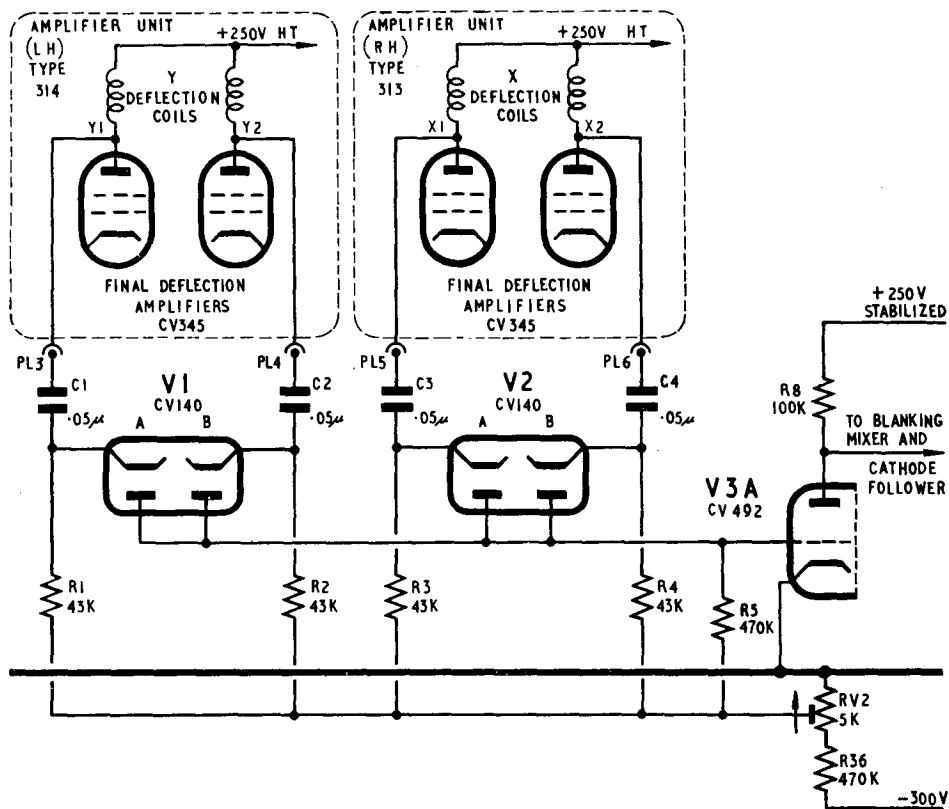
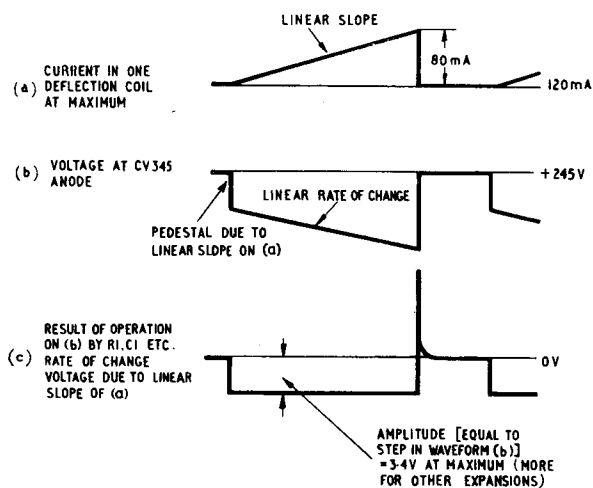

Fig. 4. Scan failure blanking
Fig. 5. Scan failure blanking—waveforms
X or Y scan, or both, is shown in simplified form in fig. 4. Its operation depends on the existence of a rate of change of current through the X deflector coils of the CRT and also upon a rate of change of current through the Y coils, when both scans are operating correctly. When both these rates of change cease to appear, or when one ceases to appear and the other falls below a certain minimum value, blanking is effected.
9. For example, during the scan period, when the PPI scan direction is horizontal (pointing east), the deflector current in the X1 coil will have a definite and steady rate of change. (The current waveform in the X2 coil is an antiphase version of that in the X1 coil.) In the extreme case of minimum expansion with centred picture, the deflector current rises from 120mA to 200mA during a period of 1,977 μ S (waveform (a), fig. 5). Since the deflector coil has both inductance and resistance, the voltage across it during this time comprises a falling linear
sawtooth superimposed on a pedestal (waveform (b), fig. 5). Similar voltages are produced across the Y1 and Y2 coils. Each voltage wave is applied to one of the CR circuits C1, R1, etc., seen in fig. 4, where the capacitor is 0.05 μ F and the resistor 43 K Ω . The purpose of this CR circuit is to extract the rate-of-change component from waveform (b) and apply it to the cathode of one of the diodes (waveform (c), fig. 5) and thence to V3A. In the case being considered, the rate-of-change voltage is -3.4V; it will be proportionately higher on the higher trace expansions.